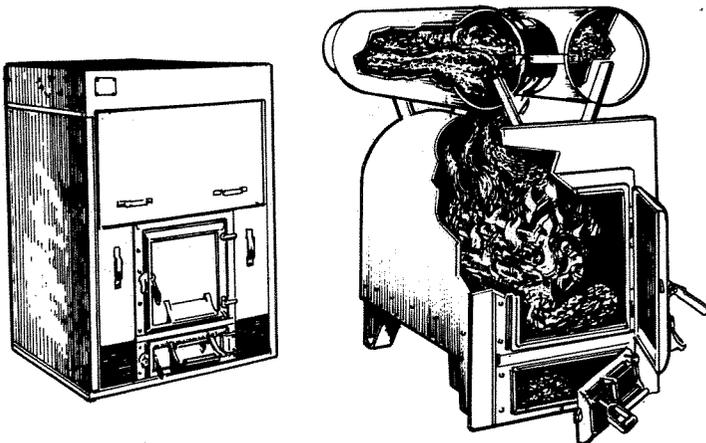

Fig. 77. Daniels wood-burning furnace (left) showing interior view (right).
5. **Sam Daniels** (manufacturer), Box 868, Montpelier, VT 05602. Daniels furnaces are designed to burn large chunks of wood. The firebox material is stainless steel. All models have thermostat controls. The large heat exchangers (heat drums) are standard. See Fig. 77 and Table 10.